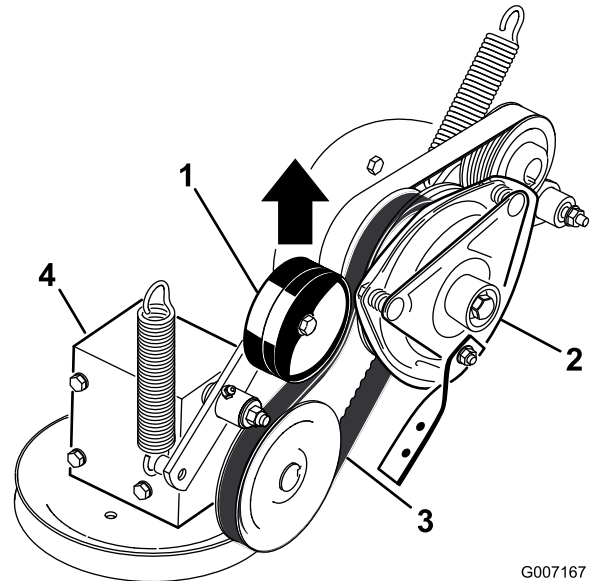

Figure 64
4. Pull up on the spring loaded idler pulley for the PTO drive belt and remove the belt from the clutch pulley (Figure 64).
16. Pull up on the spring loaded idler for the PTO drive belt and install it onto the clutch pulley (Figure 64).